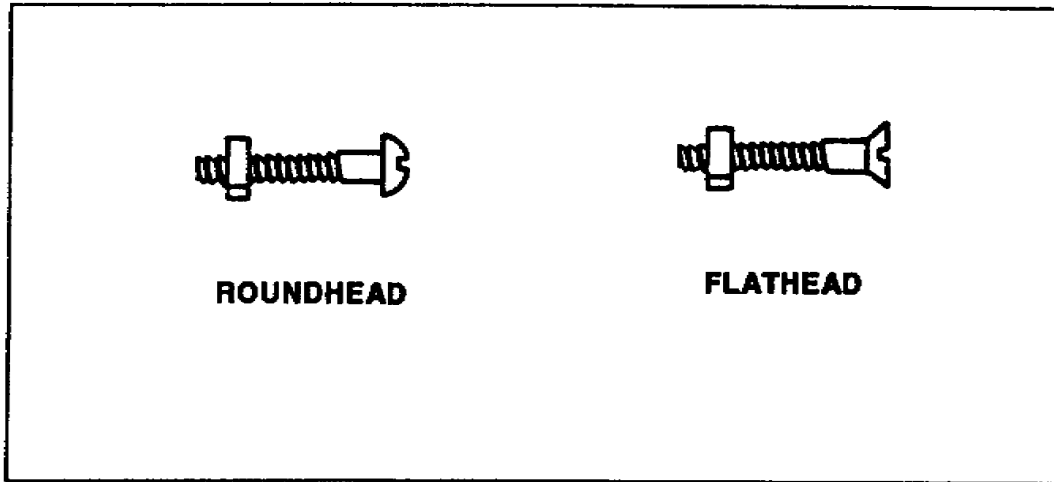

Figure 1-46. Stove bolts
a. Stove Bolts. Stove bolts are used mostly with small items of hardware. Roundhead or flathead stove bolts (Figure 1-46) range in length from 3/8 to 6 inches. They are used in light construction.